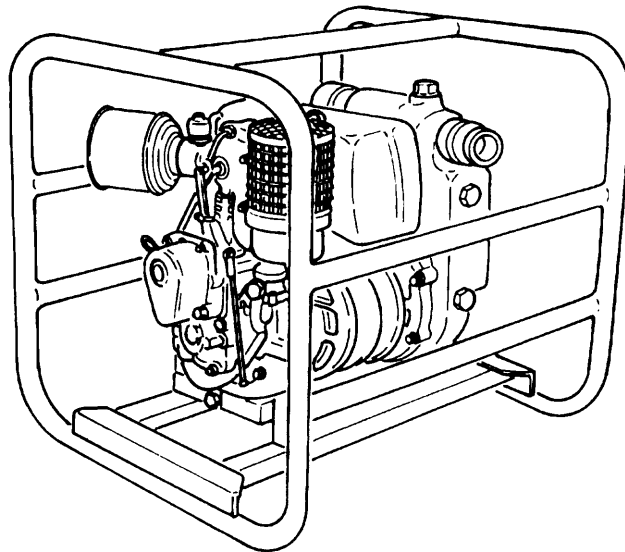

Figure 1-19. Pumping Assembly.
**1-24. PUMPING ASSEMBLY.** (Refer to Figure 1-19.)